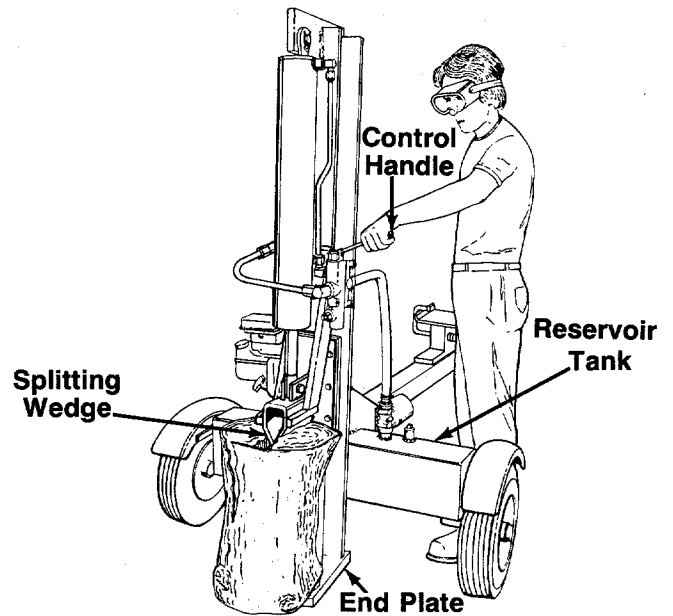

FIGURE 14.—Vertical Position
Use the log splitter only on a level, hard surface. Never stand next to the splitting wedge when operating the log splitter. Always stand behind the reservoir tank. See figures 14 and 15. Never attempt to cut a log in half sideways. Always split the log lengthwise. Maximum length of log to be split is 24". If all logs are of a smaller length, refer to "Log Dislodger" in Adjustment Section.
4. **Step behind the reservoir tank** (see figures 14 or 15) and push the control handle in forward position until the log is split.